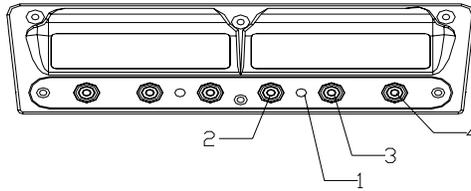

Figure 24
- (2) Tear out the membrane (1-3#)
- (3) Power on the instrument, and press the switch 1, as shown in figure 24.
- (4) Press the switch 2 or 3 again, adjust the reading displaying on LCD (right) until it displays “-18-”.
- (5) Press the switch 1 again, and wait for 10 seconds.
- (6) Finally, after the buzzer gives a beep, press the switch 4 and observe whether the included-angle reading displaying on LCD (right) is correct or not. If it is not correct, please recalibrate the instrument until the reading becomes correct. If the reading is still wrong after recalibrating, it means the included angle sensor is defective. Please replace it.